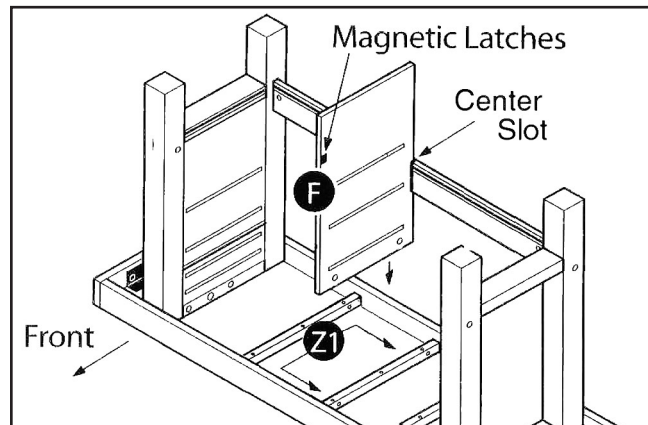

Figure 5. Center panel installation.
- Position the center panel "F" so the magnetic latches are facing toward the front (**Figure 5**), and the panel slips in the center slot.
- Using the 4mm hex wrench, secure the center panel "F" to the cross brace with two (Z1) special cap screws and washers (**Figure 5**). Do not fully tighten at this time.
- Position the bottom panel "G" into the leg grooves. Using care, slide the panel all the way back until it fully seats into the groove in the back cross brace "C" (**Figure 5**).